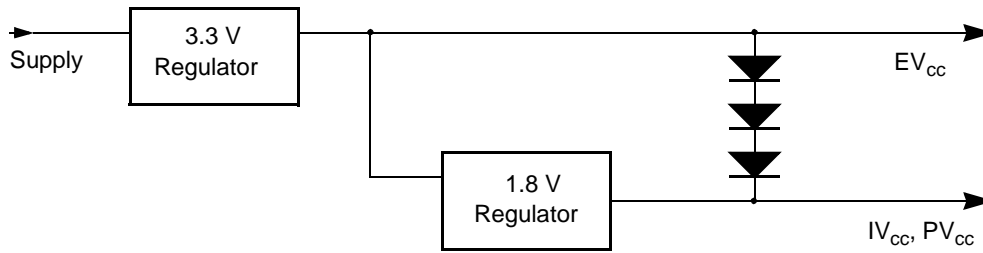

Figure 20-2. Example Circuit to Control Supply Sequencing
IV_{CC} should not be allowed to rise early (1). This is usually avoided by running the regulator for the IV_{CC} supply (1.8 V) from the voltage generated by the 3.3-V EV_{CC} supply (Figure 20-2). This keeps IV_{CC} from rising faster than EV_{CC} .
IV_{CC} should not rise so late that a large voltage difference is allowed between the two supplies (2). Typically this situation is avoided by using external discrete diodes in series between supplies as shown in Figure 20-2. The series diodes forward bias when the difference between EV_{CC} and IV_{CC} reaches approximately 2.1V, causing IV_{CC} to rise as EV_{CC} ramps up. When the IV_{CC} regulator begins proper operation, the difference between supplies should not exceed 1.5 V and conduction through the diode chain reduces to essentially leakage current. During supply sequencing, the following general relationship should be adhered to: $EV_{CC} \lesssim IV_{CC} \lesssim (EV_{CC} - 2.1 \text{ V})$. The PLL Vdd (PV_{CC}) supply should comply with these constraints just as IV_{CC} does. In practice, PV_{CC} is typically connected directly to IV_{CC} with some filtering.